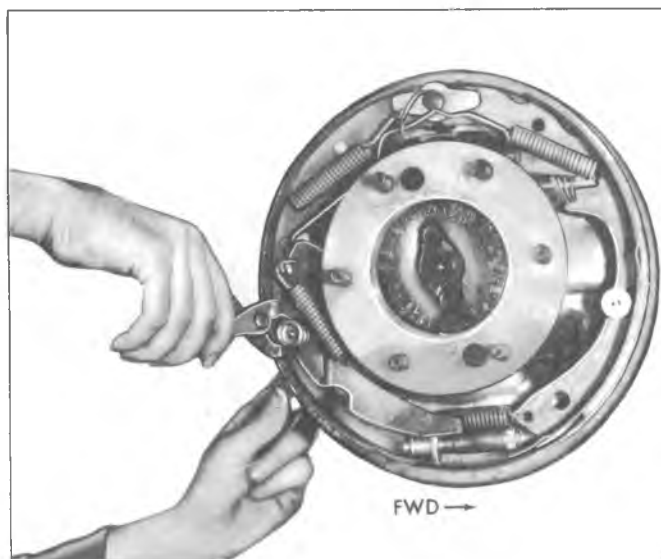

Fig. 22—Removing Hold Down Spring and Pin
7. Remove hold-down pins and springs using any suitable tool (fig. 22).